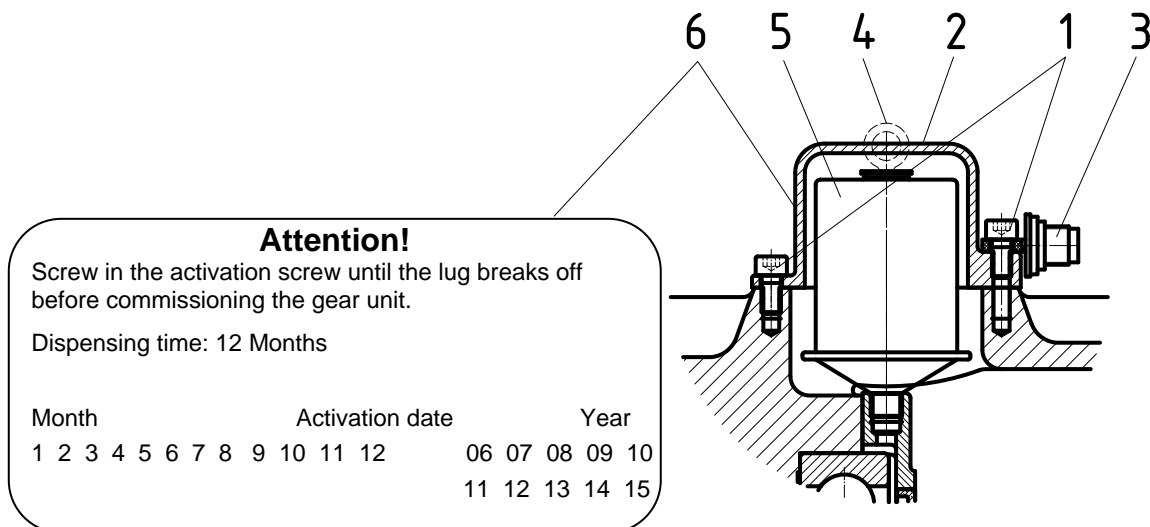

Figure 4-1: Activating the automatic lubricant dispenser with standard motor mounting
Screw-off the cartridge case cover (2), (see Fig. 4-1). The lubrication dispenser (5) is screwed out and replaced with a new component (Part No. 283 0100). Then activate (see Chapter 4.2)!